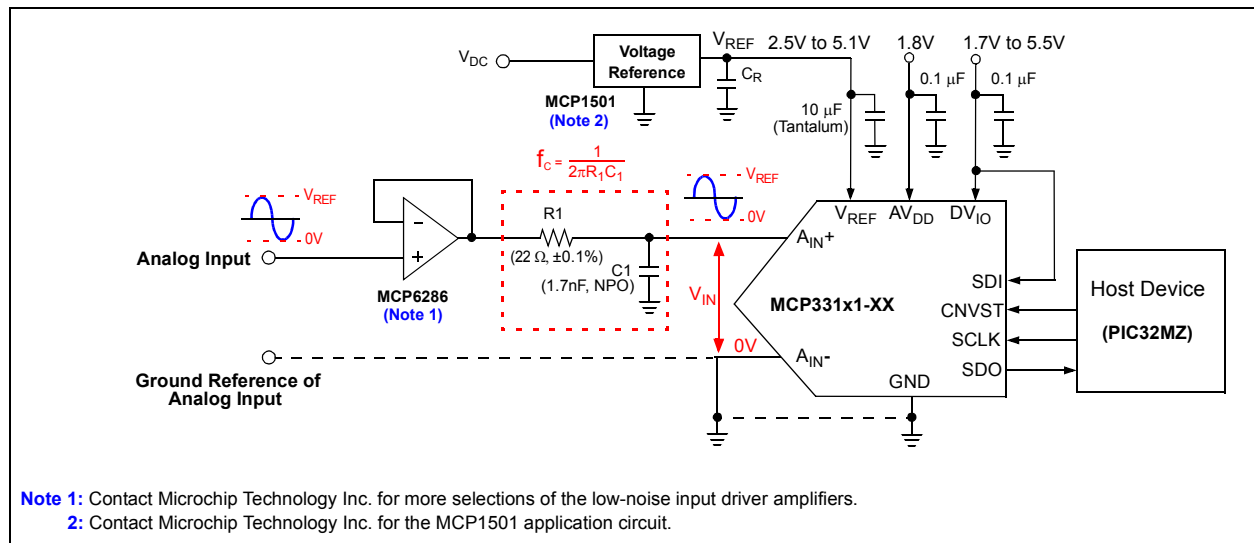

FIGURE 6-1: Unipolar-Input Application Example
**Note:** Proper decoupling capacitors (1  $\mu$ F to AVDD, 0.1  $\mu$ F to DVIO) should be mounted as close as possible to the respective pins. See Figure 6-1 for example circuit.
The device requires a single-ended external reference voltage (VREF). The external input reference range is from 2.5V to 5.1V. This reference voltage sets the input full-scale range from 0V to VREF. See Figure 6-1 to Figure 6-2 for example application circuit and reference voltage settings.
Therefore, it is a good design practice to isolate the ADC input from the high impedance source using a low noise input driver amplifier. Figure 6-1 shows an input configuration example using a low-noise OP amplifier such as MCP6286 and Figure 6-2 shows the transfer function of the MCP33131/MCP33121/MCP33111-XX.